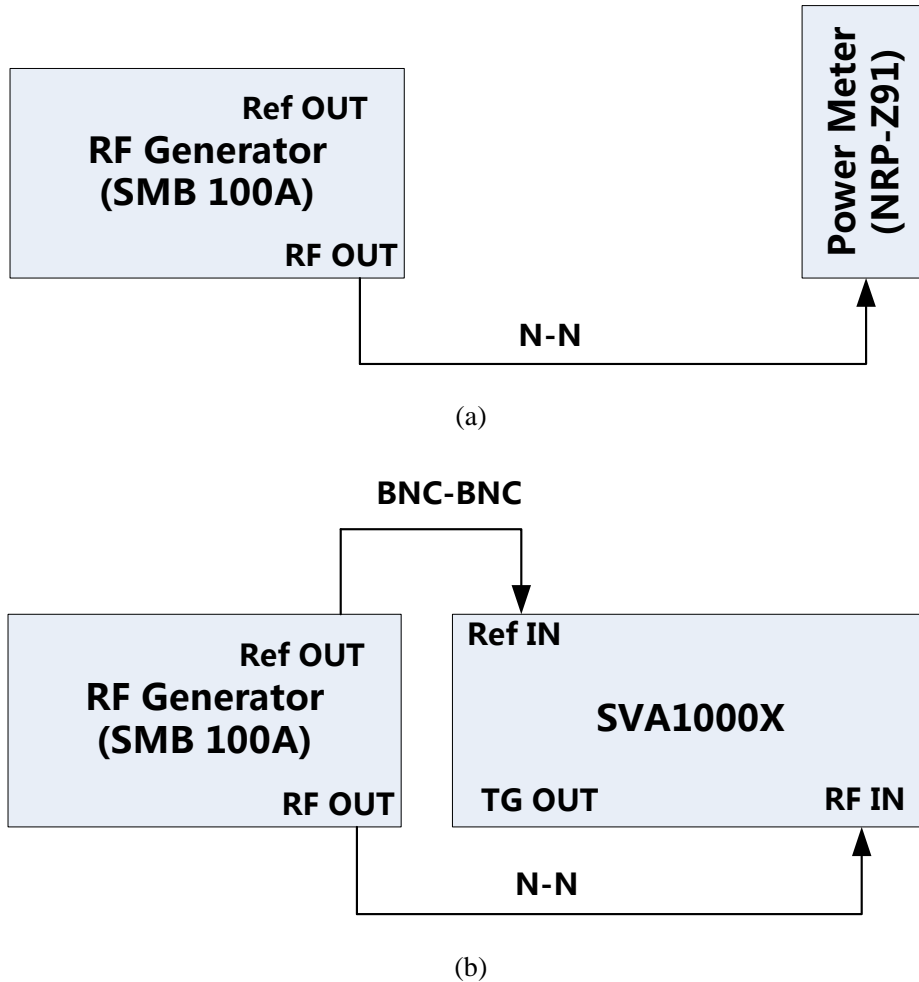

Figure 3-9 Connecting test instruments for Input Attenuation Error Test
1. Connect the RF generator and power meter as figure 3-9(a) shows